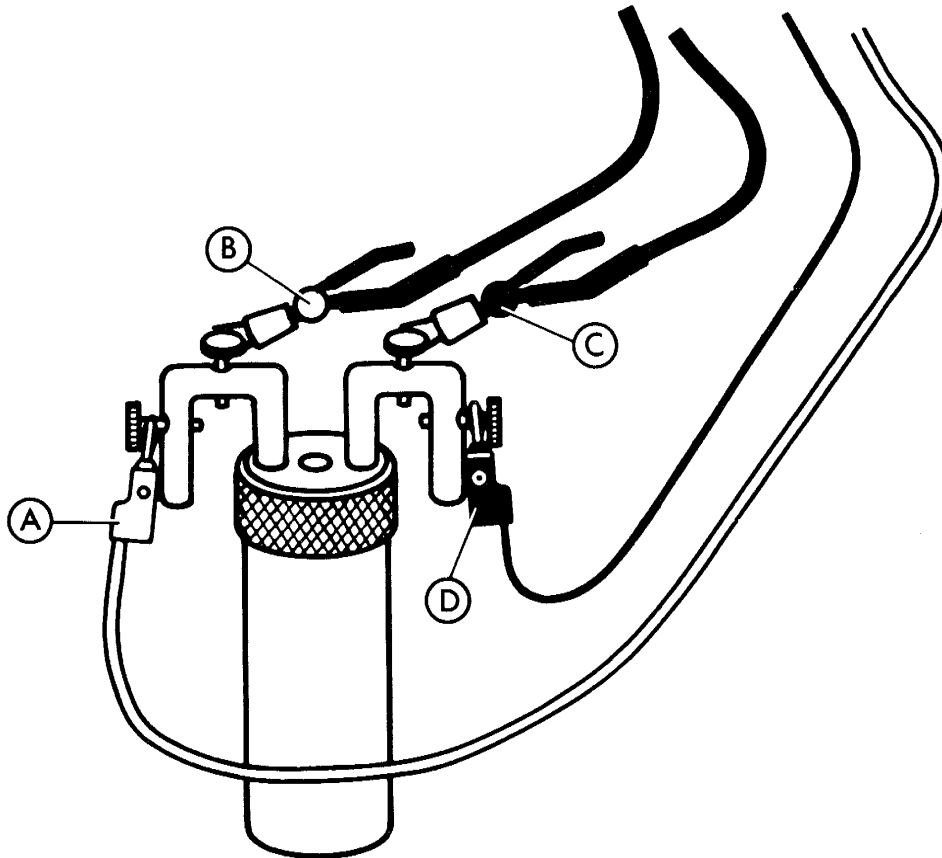

Figure 5-6. 10 ohm Standard Resistor Connections
5. Make the connections to the 10 ohm standard resistor. Reference Figure 5-6.